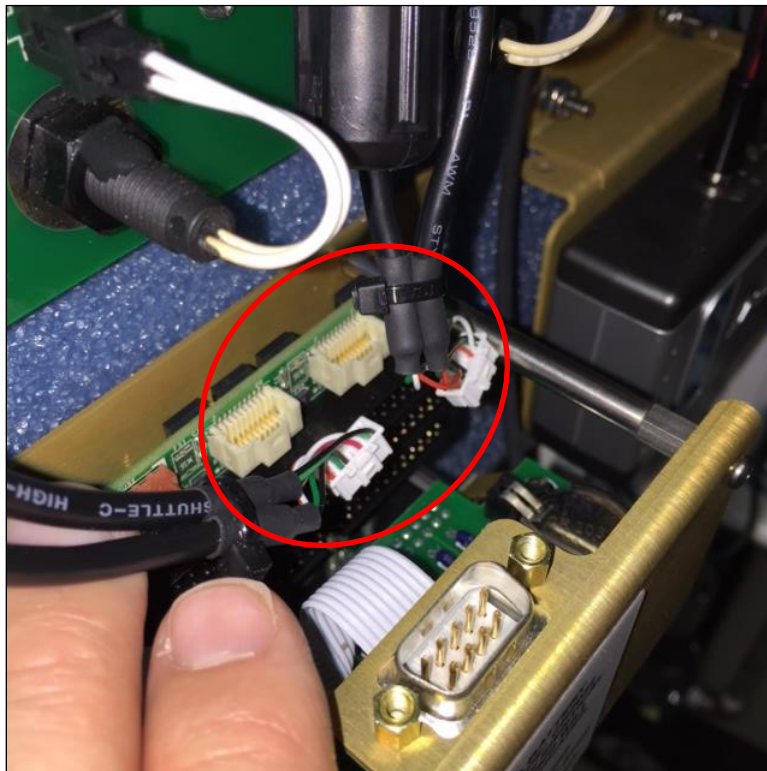

Figure 137. Disconnect USB cable assembly
6. Disconnect the USB cable assembly from terminals J4 and J5 on the upper right side of computer (Figure 137). Press the **Connector** button and pull up on the cable. Do not force the connector as it means the button is not being pressed correctly.